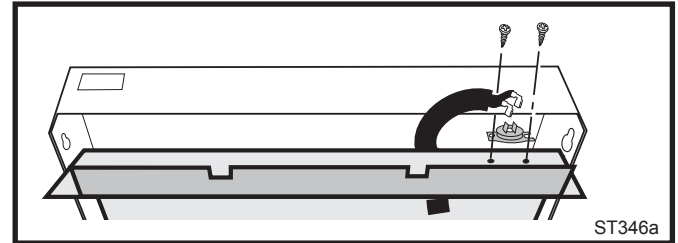
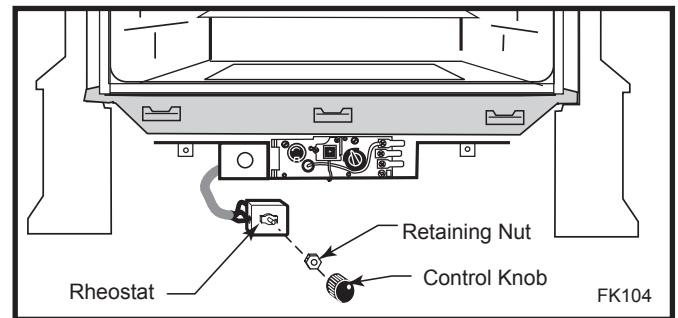

Fig. 6 Attach snapstat to inner shroud.
Fig. 7 Attach rheostat to bracket.
3. Feed the snapstat wire lead up between the inner and outer rear shroud panels and secure the snapstat to the upper right side of the inner shroud. (Fig. 6)
5. Replace shroud and tighten the two (2) hex head nuts on lower inside of shroud.
7. Install the rheostat onto the bracket to the left of the valve. (Fig. 7)